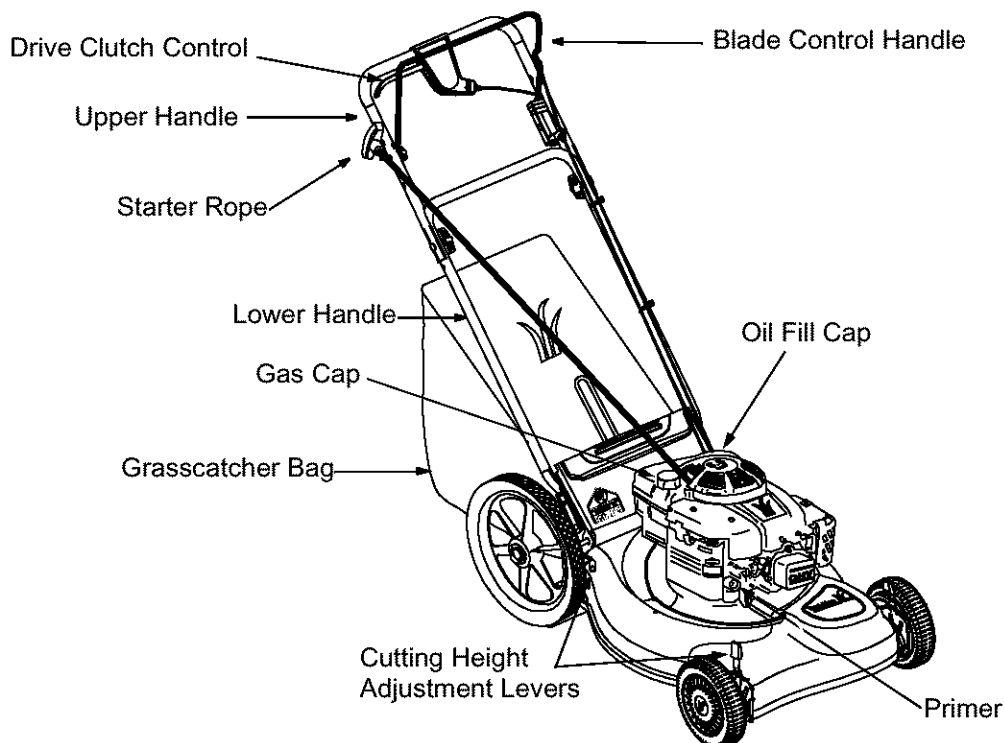

Figure 10
Read this owner's manual and safety rules before operating your lawn mower. Compare the illustrations in Figure 10 with your lawn mower to familiarize yourself with the location of various controls and adjustments. Save this manual for future reference.
The primer is used to pump gas into the carburetor. Use it to assist in starting a cold engine, but do not use it when restarting a warm engine after a short shutdown. Refer to Figure 10.
- Push primer three times, See Figure 10. Wait about two seconds between each push. In cold weather around 55° F or below, prime five times. Do not prime to restart a warm engine after a short shutdown.